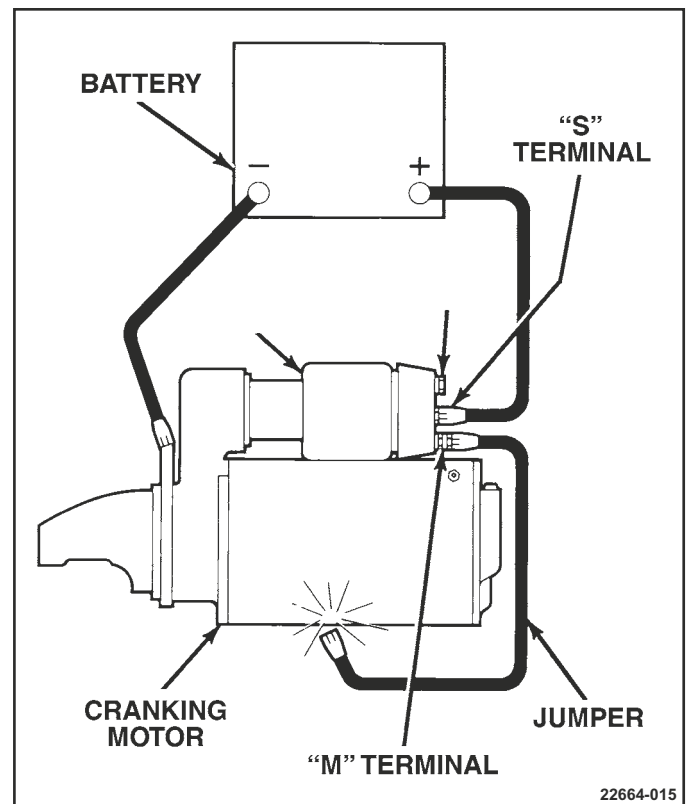

Figure 4-10 Shifting Starter Pinion to Check Clearance
3. Momentarily touch a jumper lead from solenoid motor terminal to starter motor frame (figure 4-10). This shifts pinion into cranking position where it will remain until battery is disconnected.